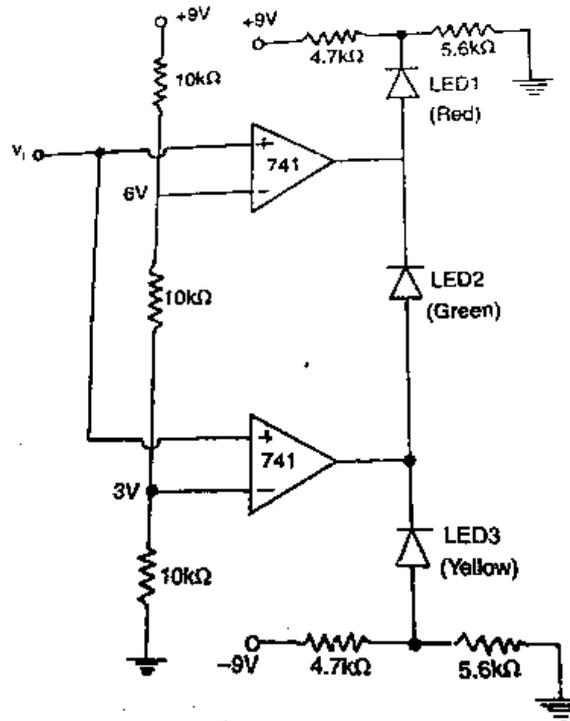

Fig. 3.25 Three level comparator with LED indicator
- Fig. 3.25 shows a three level detector with indicator circuit.